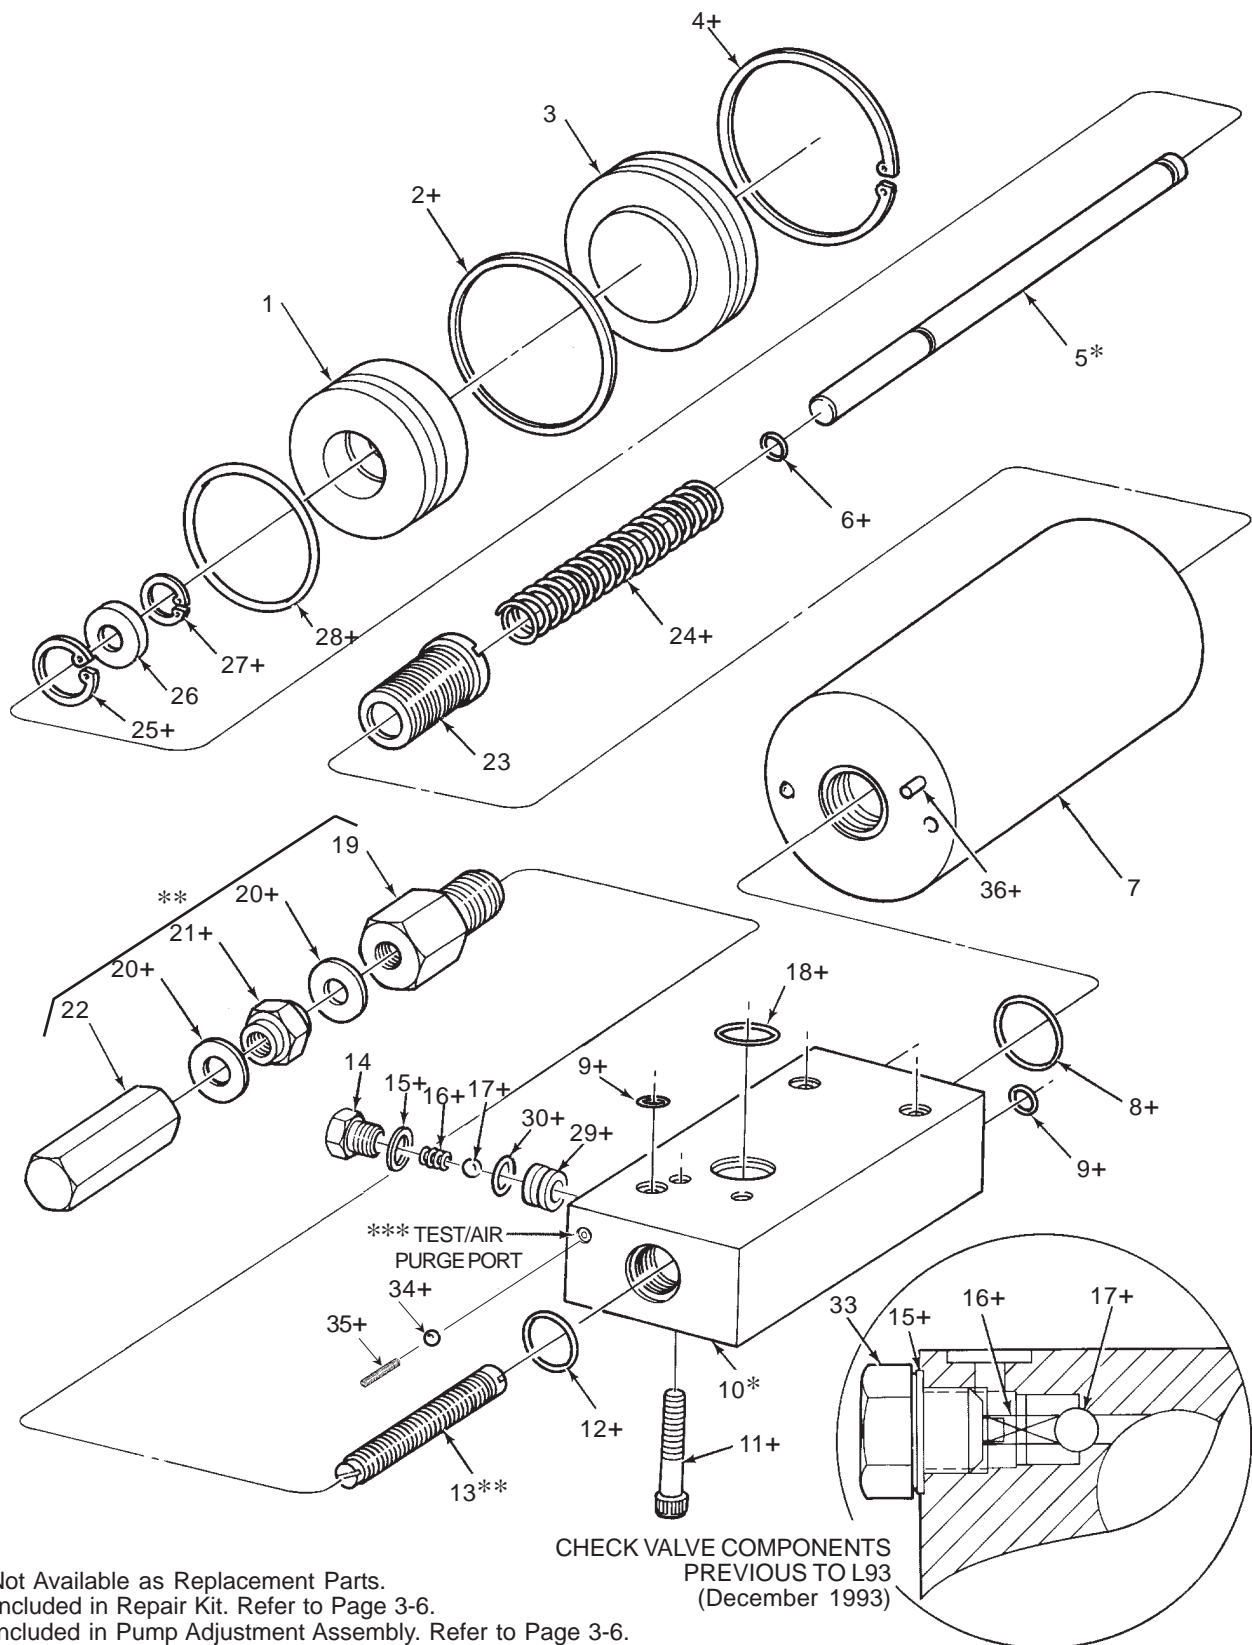

Figure 3-2. Pneumatic Pump, Exploded View
3.3.5 Pneumatic Pump Parts List. Table 3-2 identifies the parts indexed in Figure 3-2.